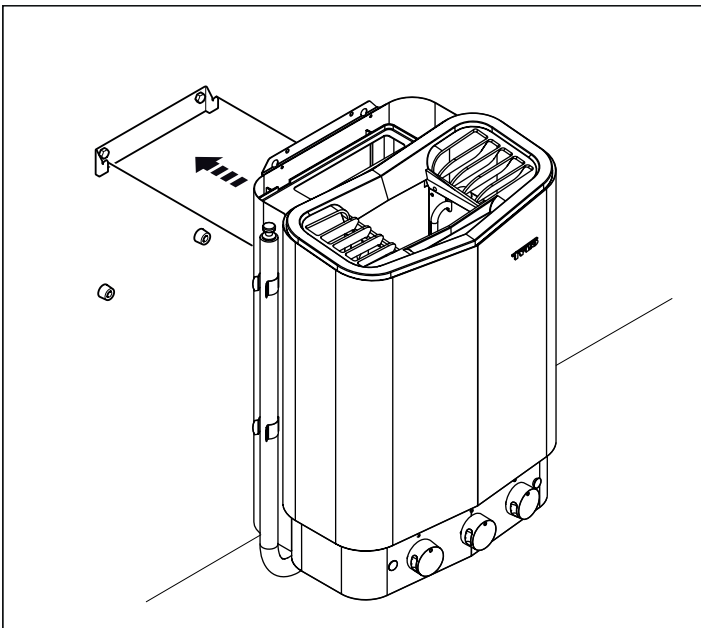

Figure 11: Hang up the heater.
9. Hang up the heater on the bracket see Figure 11.